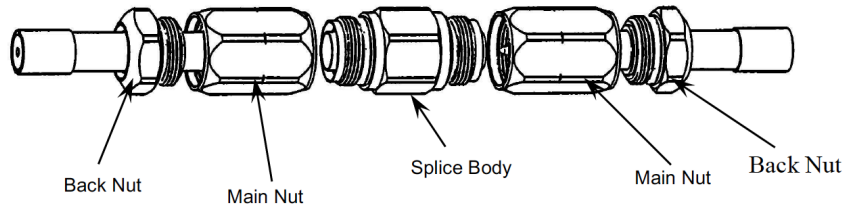

Fig. 6
4. Bring one of the connector **MAIN NUT** and **CABLE** to the connector **SPLICE BODY** as shown in Figure 6. Fully hand-tighten **MAIN NUT** to **SPLICE BODY** while keeping force on the cable towards the **MAIN BODY**.
5. Bring the second end of the connector **MAIN NUT** and **CABLE** to the connector **SPLICE BODY** as shown in Figure 6. Fully handtighten **MAIN NUT** to **SPLICE BODY** (do not allow **SPLICE BODY** to rotate), while keeping force on the cable towards the **MAIN BODY**.